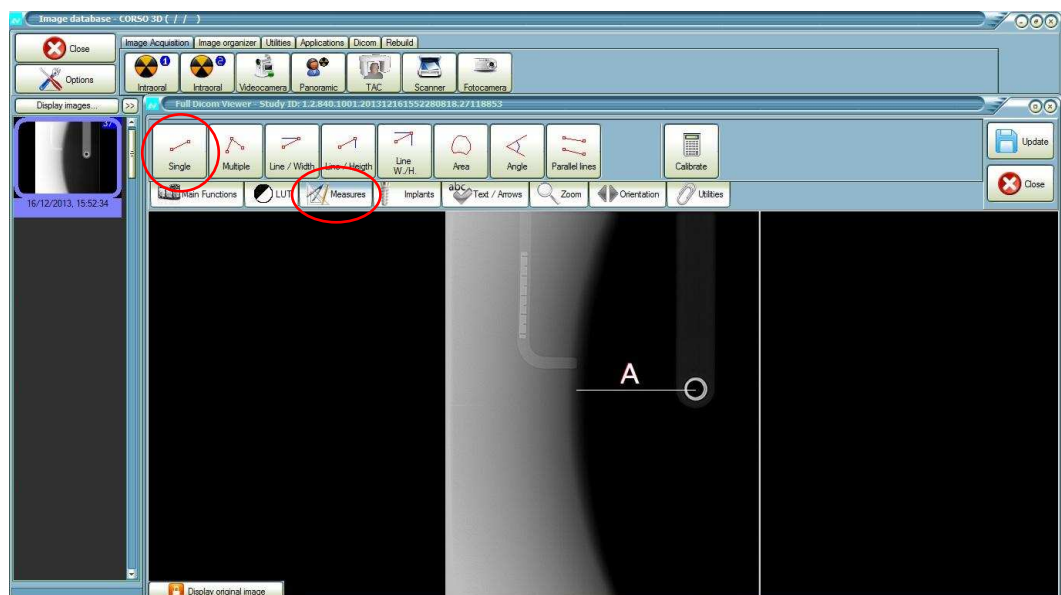

Figure 9-36
8. Select from the menu "Measure" the icon "Singles" and measure the distance "A" (Figure 9-36) between the Soft Tissue Filter (STF) edge and the center of the rings; perform the measure in "mm".